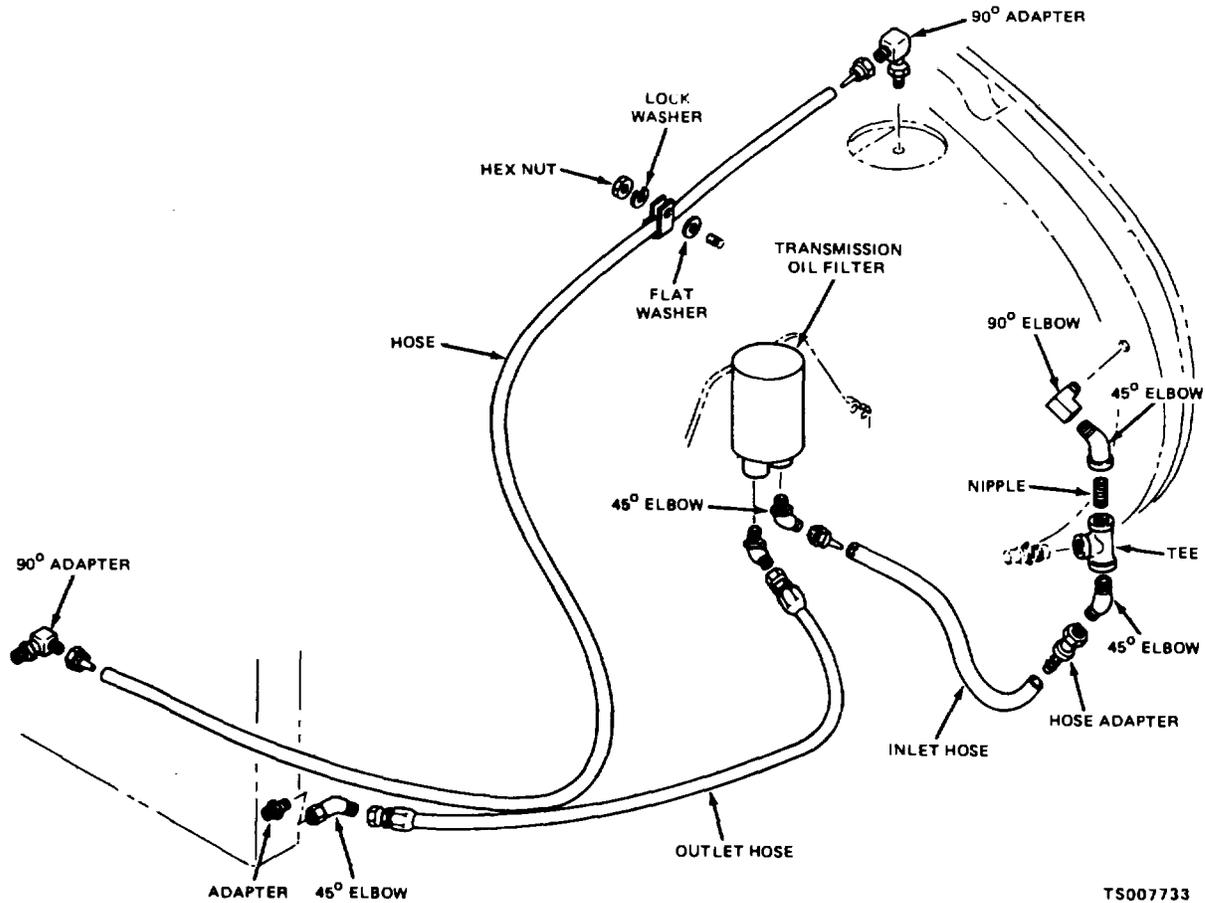

Figure 4-60. Transmission Oil Filter, Lines and Fittings, Removal and Installation
b. Removal and Disassembly. Remove and disassemble the transmission oil filter and lines as shown in figure 4-60.
Reassemble and install the transmission oil filter and lines as shown in figure 4-60, using a new filter element and gasket. After installation, start up the engine and check carefully for oil leaks. Repair any leaks and add oil as necessary.